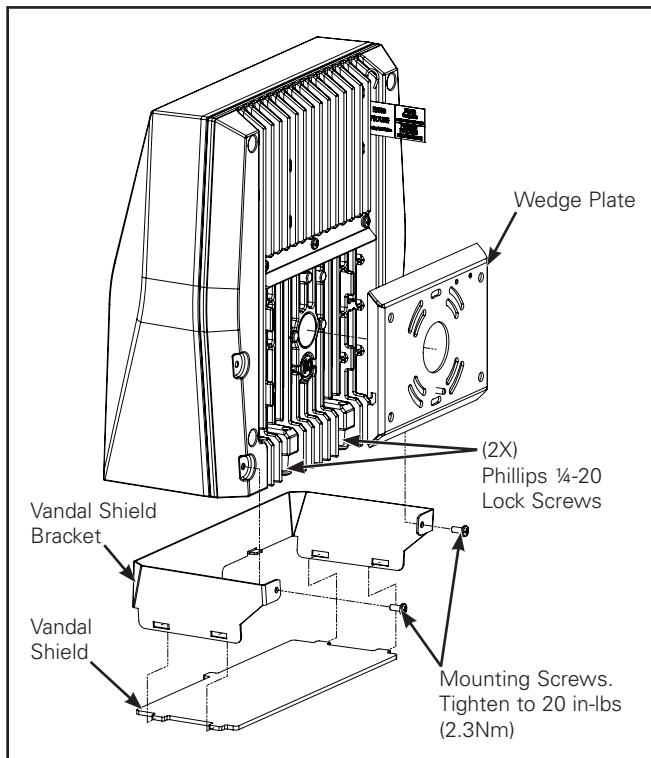
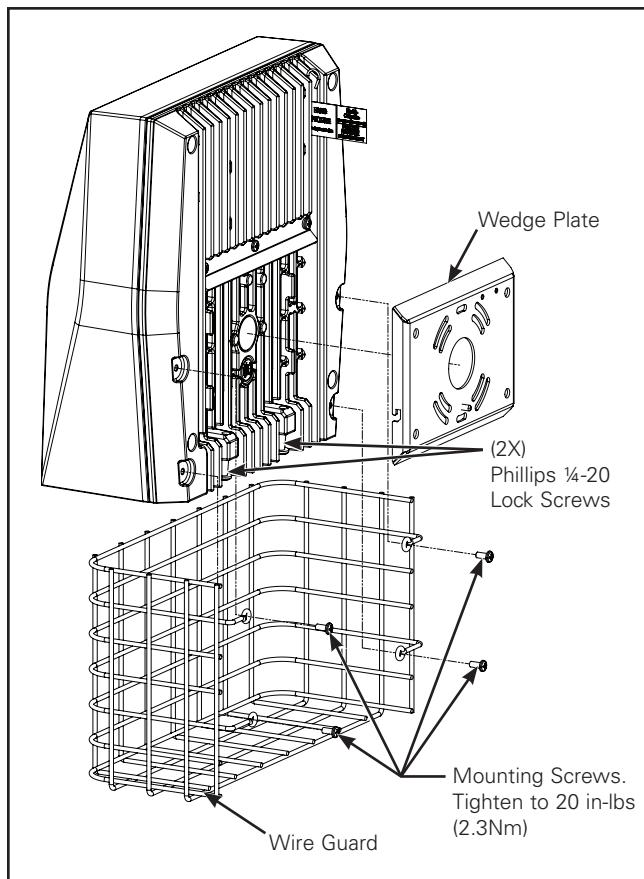

Figure 1.
Figure 2.
2. (Wall Mount only) – Remove fixture from wall by loosening the (2) ¼-20 Phillips head screws on the fixture (Figure 1).
5. Install Vandal Shield or Wire Guard by opening or expanding it slightly and positioning onto the fixture (Figure 1 or Figure 2). For the Vandal Shield, install the lens into the slots (Figure 1).